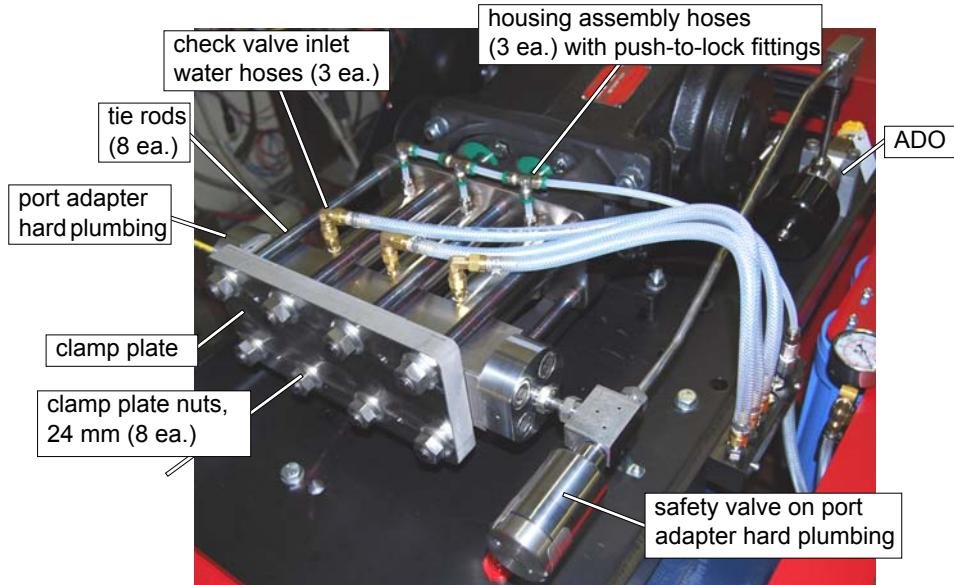
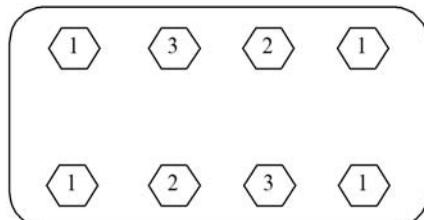

Figure 6-2
Figure 6-3
The high-pressure wet end assembly consists of pump parts bolted to the crankcase and are directly involved in providing high-pressure water to the cutting nozzle. Refer to Figure 6-2. During disassembly, keep all parts together in related sets, noting the original position of each set.
3. Disconnect **hard plumbing** from the **port adapters**, using the 13/16" and a 1" wrench. See Figure 6-2:
5. Using the 24 mm socket (or 15/16" socket) and 1/2" breaker bar, remove the eight **24 mm nuts** from the **clamp plate** (Figure 6-2), being careful to remove the load on the **tie rods** evenly. Break loose the nuts at the ends of the clamp plate first, then use a crisscross pattern when breaking the remaining four nuts loose (Figure 6-3). Using the same pattern, back each nut off $\frac{1}{2}$ turn until the load is removed from the tie rods.